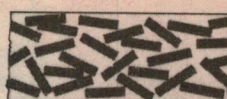

Fig. 7
4. Increase the amount of magnetic material which is aligned in the preferred direction—increase orientation (Fig. 7).